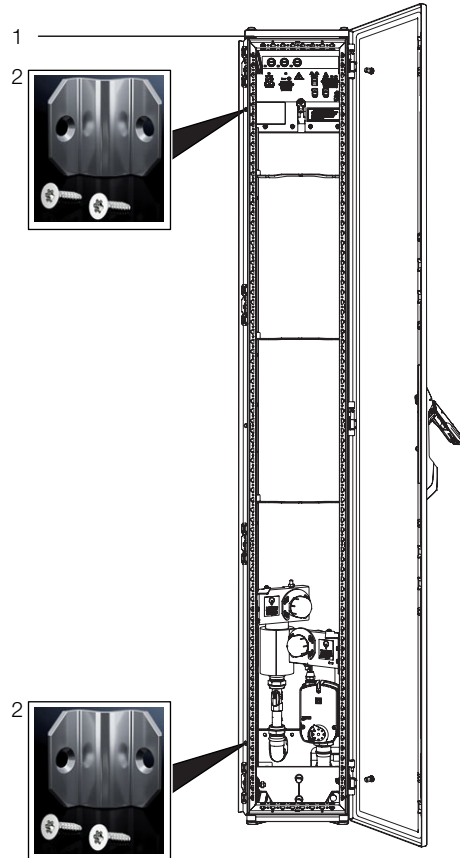

Fig. 34: LCP Rack – rear
- Using the corresponding assembly screws, fasten four baying connectors each (5301.310, fig. 34, item 2) onto the attachment points provided in the mounting strips on the front and rear of the LCP Rack or LCP Inline Flush (fig. 34, item 1).